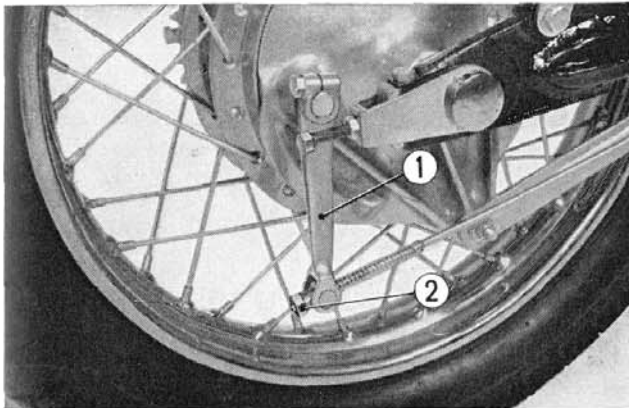

Fig. 13-15 ① Rear brake arm
2. Remove the rear brake adjusting nut and brake rod from the brake arm. (Fig. 13-15)